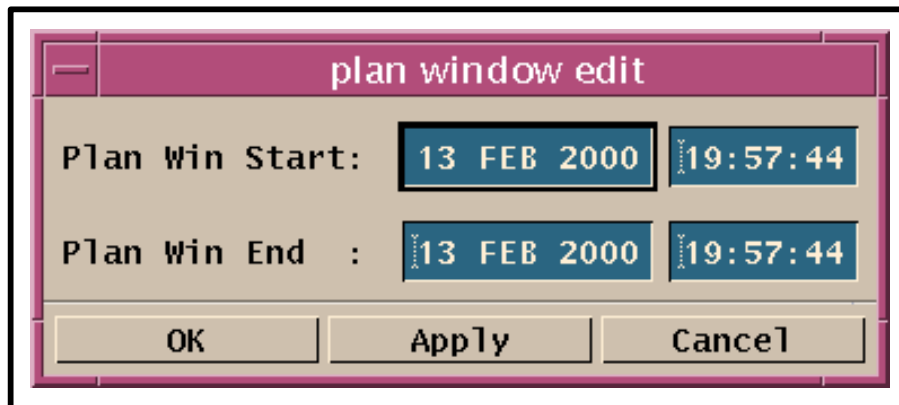

Figure 49. Plan Window Edit Window
- The **plan window edit** window (Figure 49) is displayed.